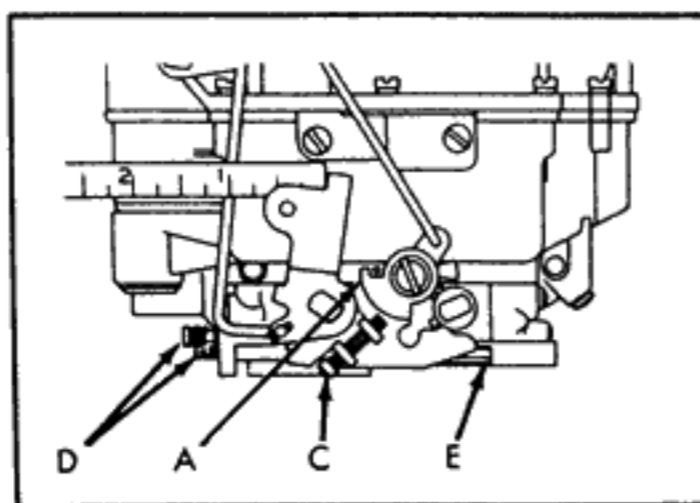

Figure 6
- a. Adjustment "A". (See figure 6.) Loosen clamp screw on choke lever. Insert feeler gage (see Adjustment Data Table, for correct size) between the lip of fast idle cam and the boss on the flange casting (at A, figure 6). With choke valve held tightly closed, take slack out of linkage and tighten clamp screw on choke lever.
- b. Adjustment "B". (See figure 6.) With choke valve held closed and fast idle adjusting screw (C), or fast idle adjusting tang, on high step of cam, rotate screw (C) or bend tang, until throttle valves are open the distance listed in Adjustment Data Table between throttle valves and carburetor bore, on side opposite idle adjusting screws.
XI. IDLE ADJUSTMENT. (See figure 6.)